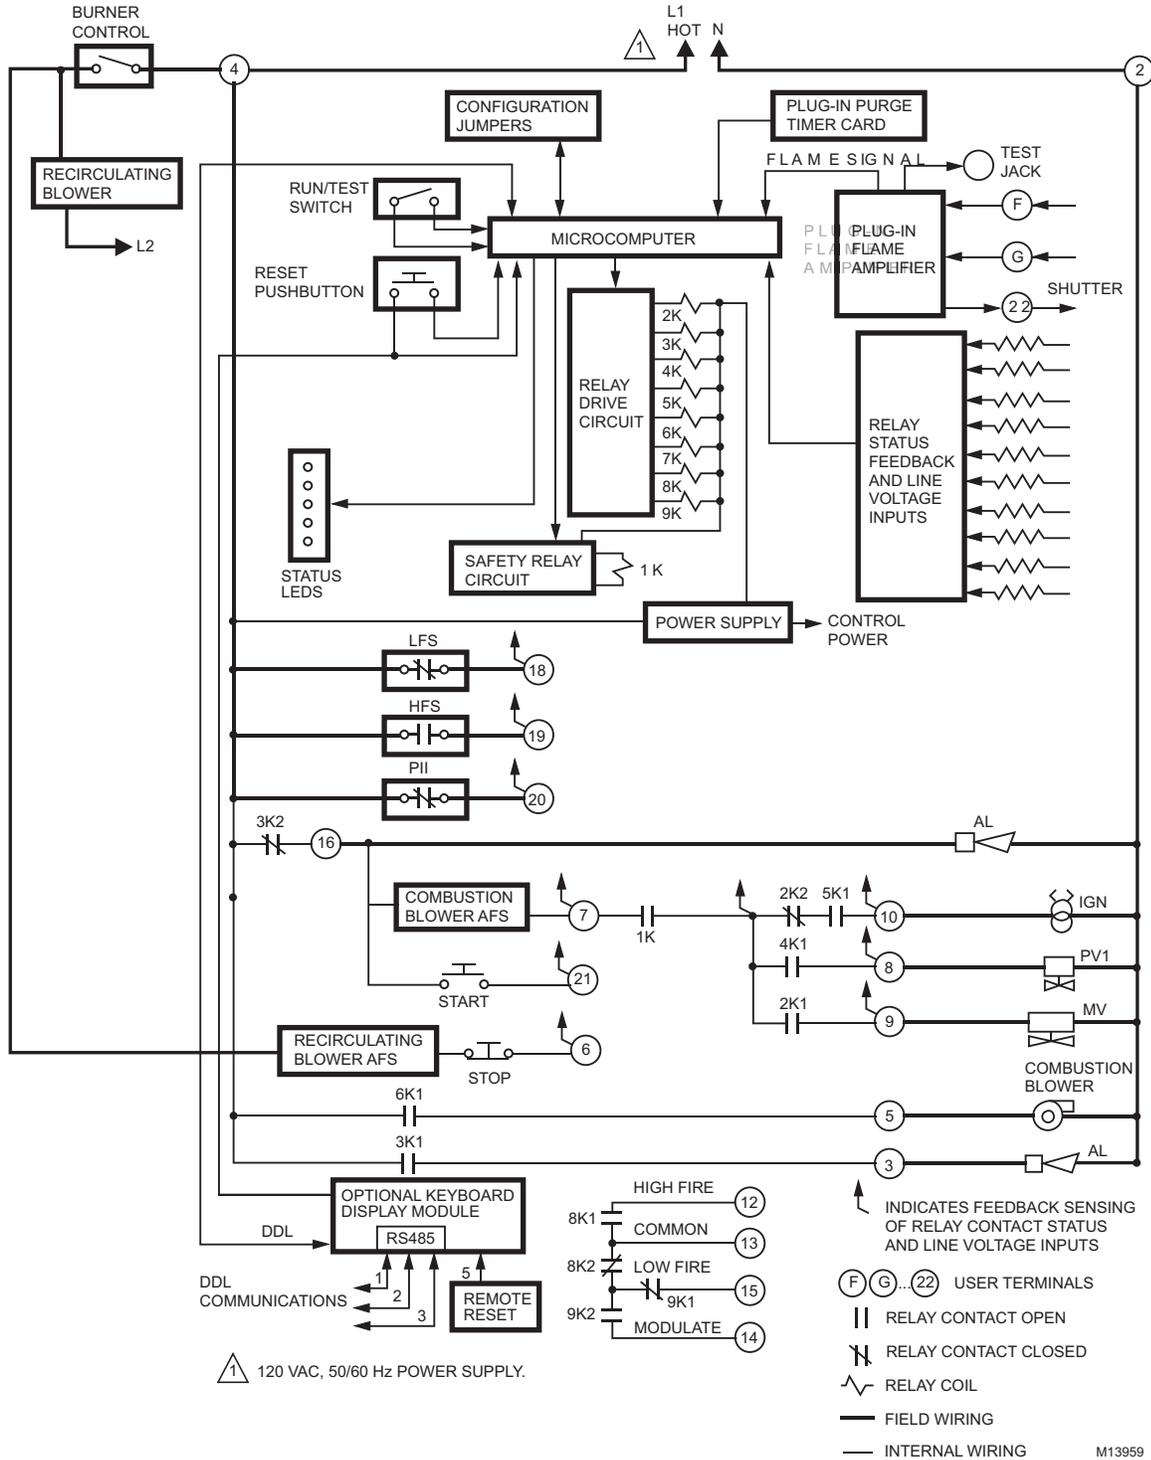

Fig. 3. Internal block diagram of RM7838C1020/RM7838C2020 (see Fig. 6 for detailed wiring instructions).
1. *Wiring connections for the relay modules are unique; refer to Fig. 3 and 4 or the correct Specifications for proper subbase wiring.*
1. Refer to Fig. 3 or 4 for proper subbase wiring.